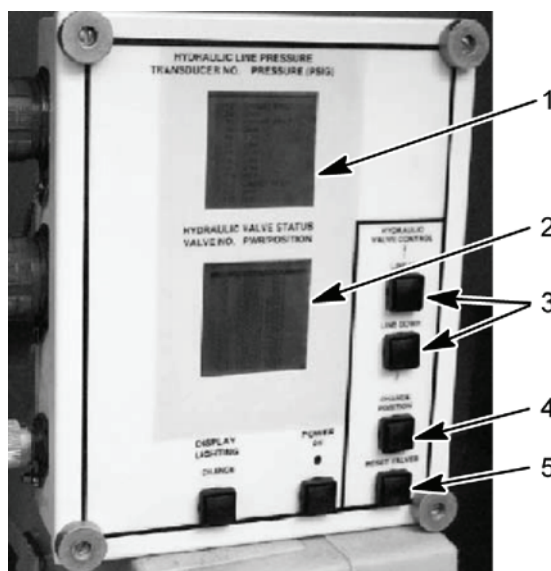

Figure 60. HDC Control Box
- Reset all HDC solenoid valves by selecting the RESET VALVES button (Figure 60, item 5) on the HDC control box.
- For 3R; using LINE UP or LINE DOWN button (Figure 60, item 3), select V15 on the HDC display (Figure 60, item 2). Close V15 on the HDC display (Figure 60, item 2) by selecting the CHANGE POSITION button (Figure 60, item 4) on the HDC control box.
- Have assistant start engine and move right-hand SUSPENSION CONTROL lever to RAISE. Read transducer T-1 hydraulic pressure on the HDC display (Figure 60, item 1).
- Using LINE UP or LINE DOWN button (Figure 60, item 3), select V15 on the HDC display (Figure 60, item 2). Open V15 on the HDC display (Figure 60, item 2) by selecting the CHANGE POSITION button (Figure 60, item 4) on the HDC control box.